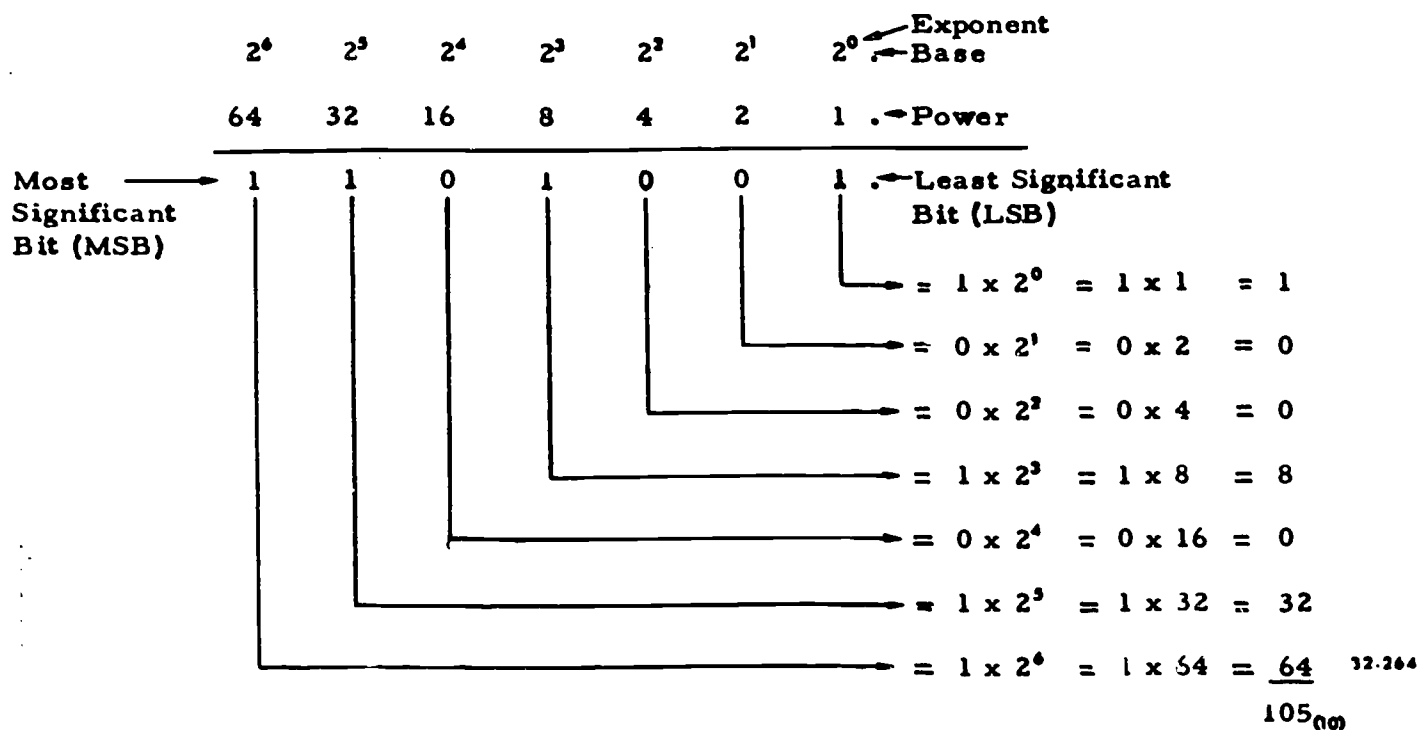

Figure 2-4. Examples of binary whole number PLACE value.
The binary system uses the radix two (2). It has only two symbols, 0 and 1. You can write any number using these two symbols. Zero is the PLACEHOLDER for the system. One stands for 1, unity, or a single unit. As an example, let's find the decimal equivalent of the binary number 1101001 using the powers of 2, as shown in figure 2-4. After multiplying each of the bits by the power of the PLACE the bit occupies, and then adding these values together, we see that 1101001_2 is equal to 105_{10} . Note in figure 2-4 that as the exponent increases by 1, the power doubles; this is characteristic of the base two system.
When we used the powers of 2 in figures 2-4 and 2-5, we actually converted a binary number to its decimal equivalent. This method of converting from binary to decimal is called the addition method. You will study this and other binary-to-decimal conversion methods later.